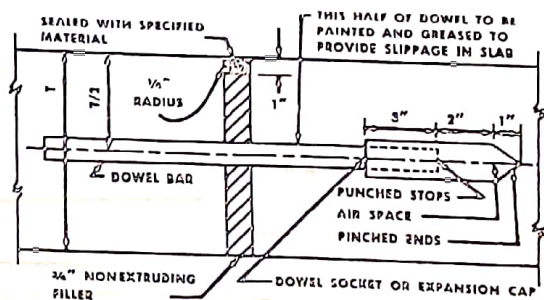

Fig.2 Typical doweled expansion joint
(3) **Transverse Expansion Joints:** are usually designed to provide space in the concrete to allow for the expansion of the slabs thereby preventing the high compressive stresses. These joints also serve as contraction joints, warping joints and construction joints. The load transference across the transverse joint is carried out throughout a system of reinforcement provided at suitable interval projecting in the concrete in longitudinal direction. Such a device is named as *dowel bar* shown in Fig.2. Joint is 29 to 25 mm wide and extend the full depth of the slab. The joint space is filled with filler materials.